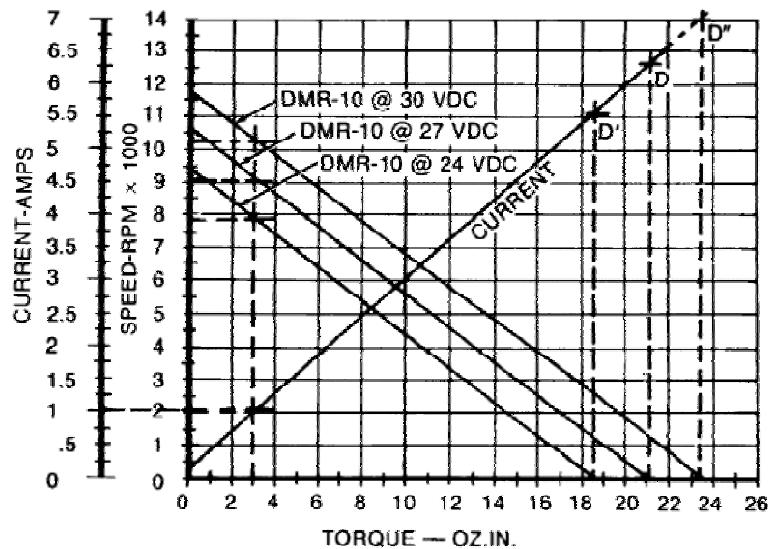

Figure 2
3. Plot this new point (see Figure 2, page 4) and draw a line through it parallel to the 27 VDC curve. This is the performance of the motor at 24 VDC.
- iii. Refer to Figure 2: the motor speeds show that the load was 3 oz. in. and the voltage varied between 24 and 30 VDC: 7800 rpm to 10,200 rpm.